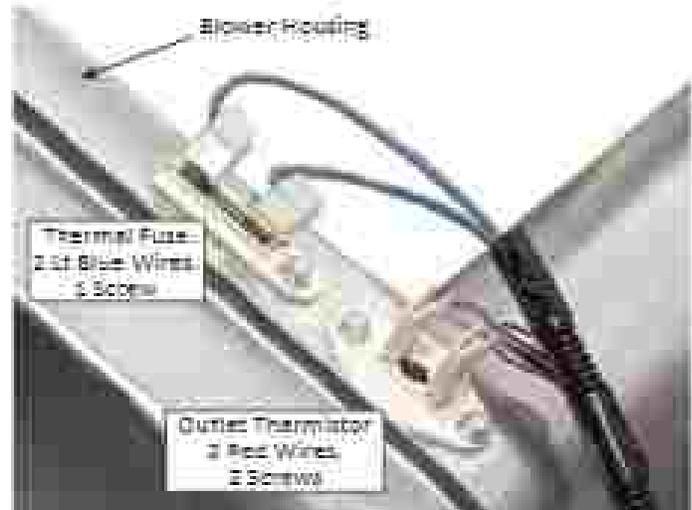

Figure 2 - Thermal Fuse & Outlet Thermistor
- D. Disconnect the two wire connectors from the thermal fuse or outlet thermistor terminals (see Figure 2).
- E. Remove the screw(s) from the thermal fuse or outlet thermistor and remove the component from the blower housing (see Figure 2).